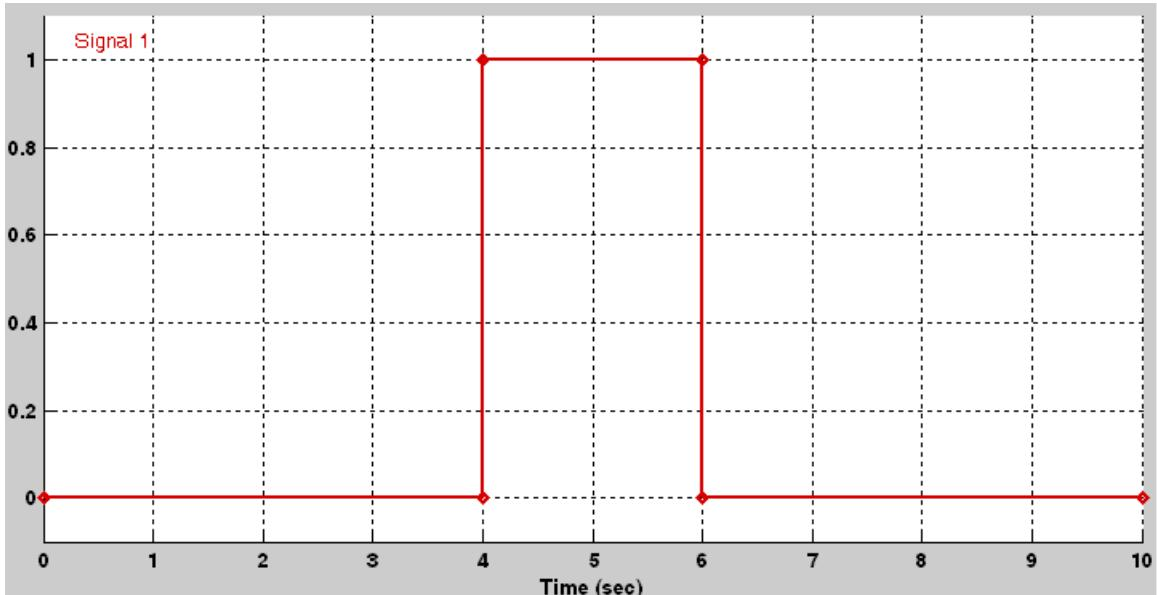

Figure 15.7. Waveform displayed when the Signal Builder block is double-clicked the first time
1. We first double-click on the Signal Builder block, a waveform similar to that shown in Figure 15.7 is displayed. The points at the ends of each line segment indicate that this waveform is selected. To deselect it, we press the Esc key.